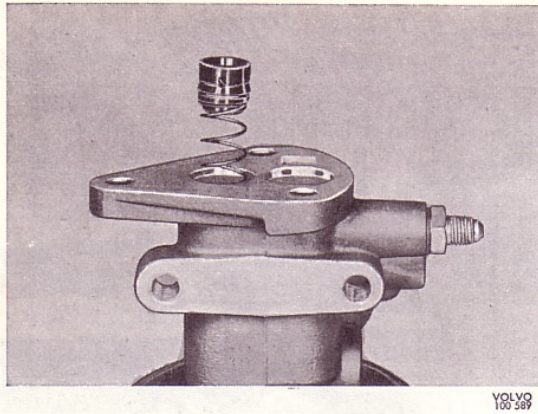

Fig. 38. Fitting the pressure plunger.
1. Take a new plunger (15, Fig. 37) with inner seal (13) fitted. Fit the plunger seal (14) and turn it as shown in the figure. Place the spring (11) on the plunger. Dip the plunger in brake fluid and insert the spring into the cylinder, see Fig. 38. Fit the washer (16) and carefully press in the plunger with the help of the clamp. Fit the circlip carefully as shown in Fig. 35. Check that it locates properly in its groove. Place the seal (19) on the spacing sleeve (18) and fit this. Place the sleeve (20) in position.